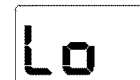

Fig. 2
3. Press -lo to choose the Lo option -Fig. 2.	- lo